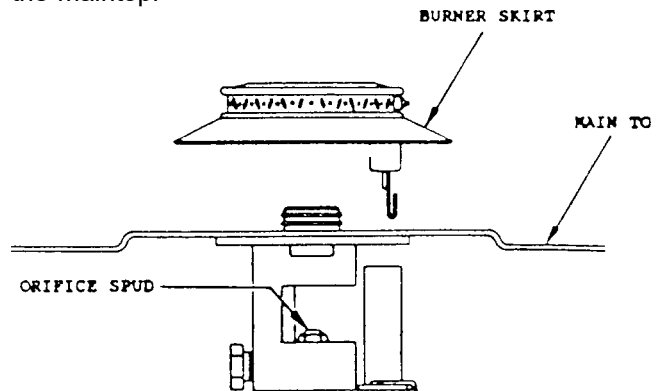

Figure 26
Remove four (4) top burners by pulling upwards. (See Figure 26.) Remove the two (2) flat headed screws at each burner and lift off main top. Replace the burner orifice spuds using a 5/16" nut driver. Reinstall maintop and burners. To replace the burners, position the ignitor over the hole at the rear of each burner opening and push the burner down onto the burner base until the skirt contacts the maintop.